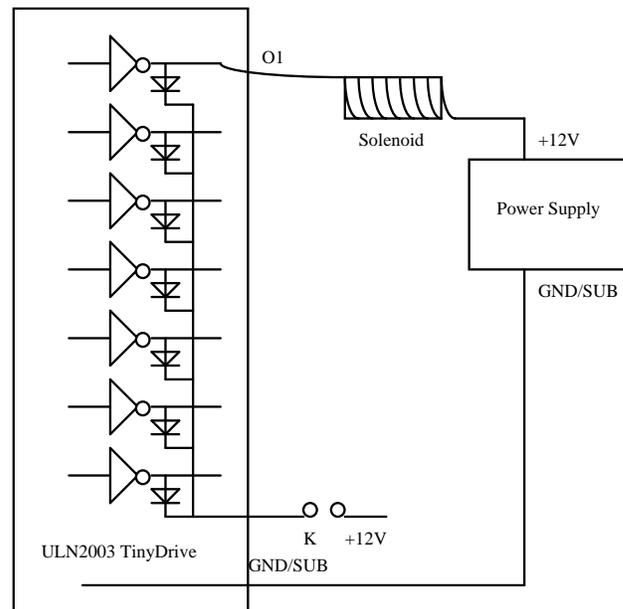

Figure 3.5 Drive inductive load with high voltage/current drivers.
U25 has seven high-voltage drivers (HV1-HV7) These outputs may be paralleled to achieve high-load capability, although each driver has a maximum continuous collector current rating of 350 mA at 50V. The maximum power dissipation allowed is 2.20 W per chip at 25 degrees C ($^{\circ}$ C). The common substrate G is routed to J5 pin 2. The common substrate of the high-voltage driver at location U25 is tied to ground by default. Locations U33 and U38 must have G supplied by the user. All currents sinking in must return to the J5 pin 2. A heavy gauge (20) wire must be used to connect the J5 G terminal to an external common ground return. K connects to the protection diodes in the ULN2003 chips and should be tied to highest voltage in the external load system. K can be connected to a user provided voltage at J5 pin 3. **ULN2003 is a sinking driver, not a sourcing driver.** An example of typical application wiring is shown in Figure 3.5.